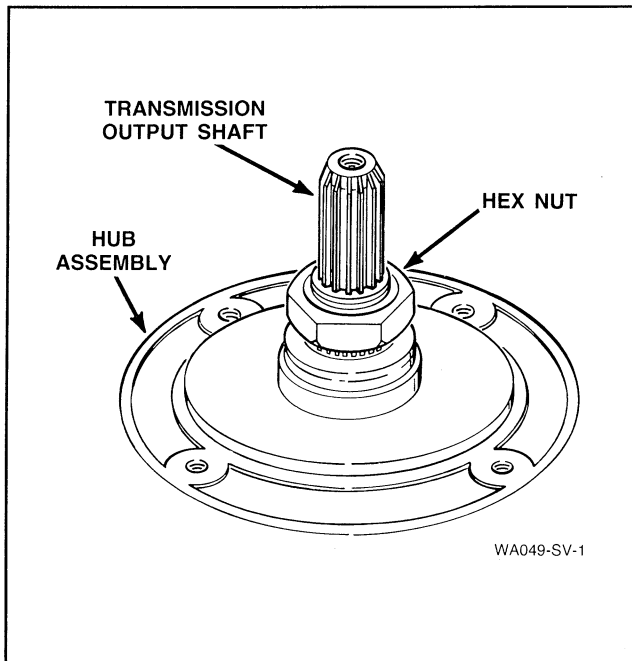

Figure 30
- j. Remove the large hex nut, *Figure 30*, using No. 237P4 Hex Wrench.